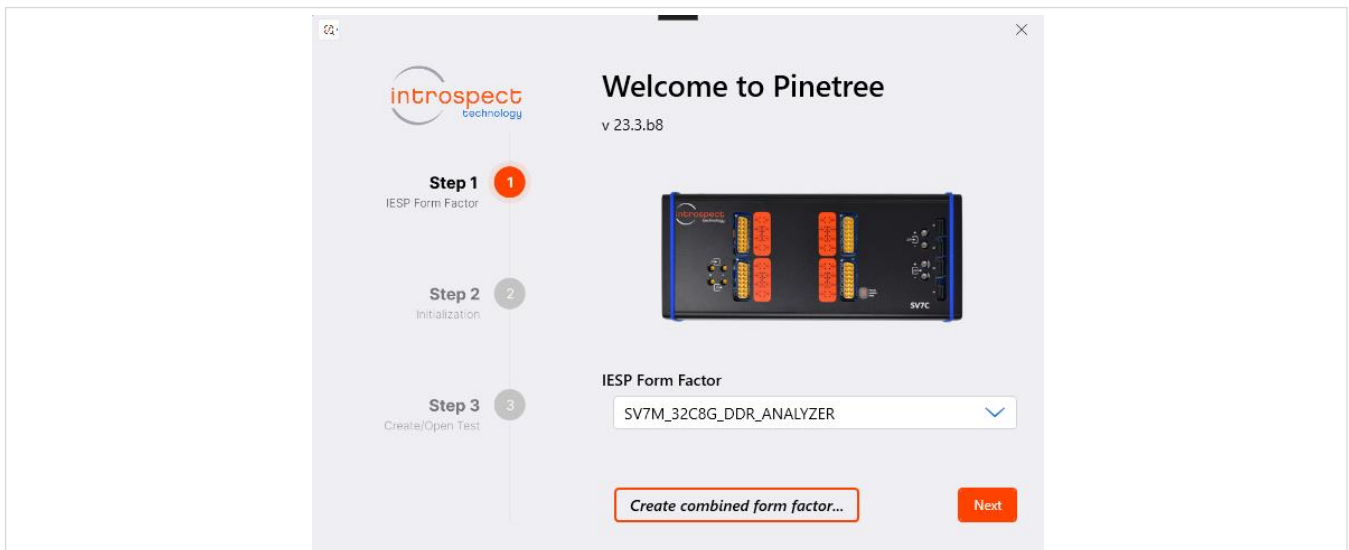

Figure 1: Opening Pinetree with the SV7M_32C8G_DDR_ANALYZER form factor.
1. Open Pinetree with the SV7M_32C8G_DDR_ANALYZER form factor as in Figure 1 above and create a new test.